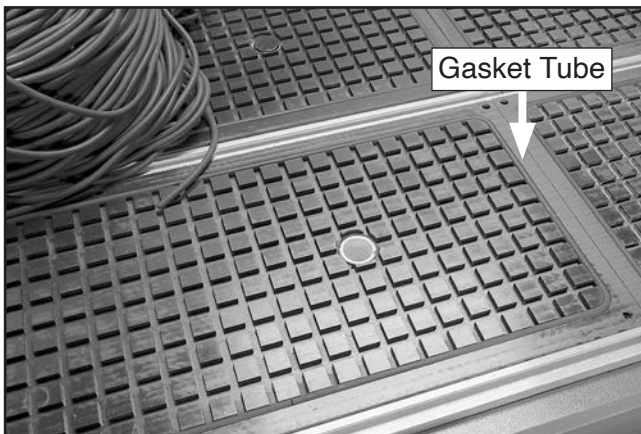

Figure 125. Example of gasket tube cut to size to seal workpiece to vacuum zone.
- If workpiece does not fully cover vacuum zones it is over, use included gasket tube to seal the outside of the workpiece. Arrange tube on table so it fits just underneath outer edge of workpiece, then cut tube to size (see **Figure 125**).